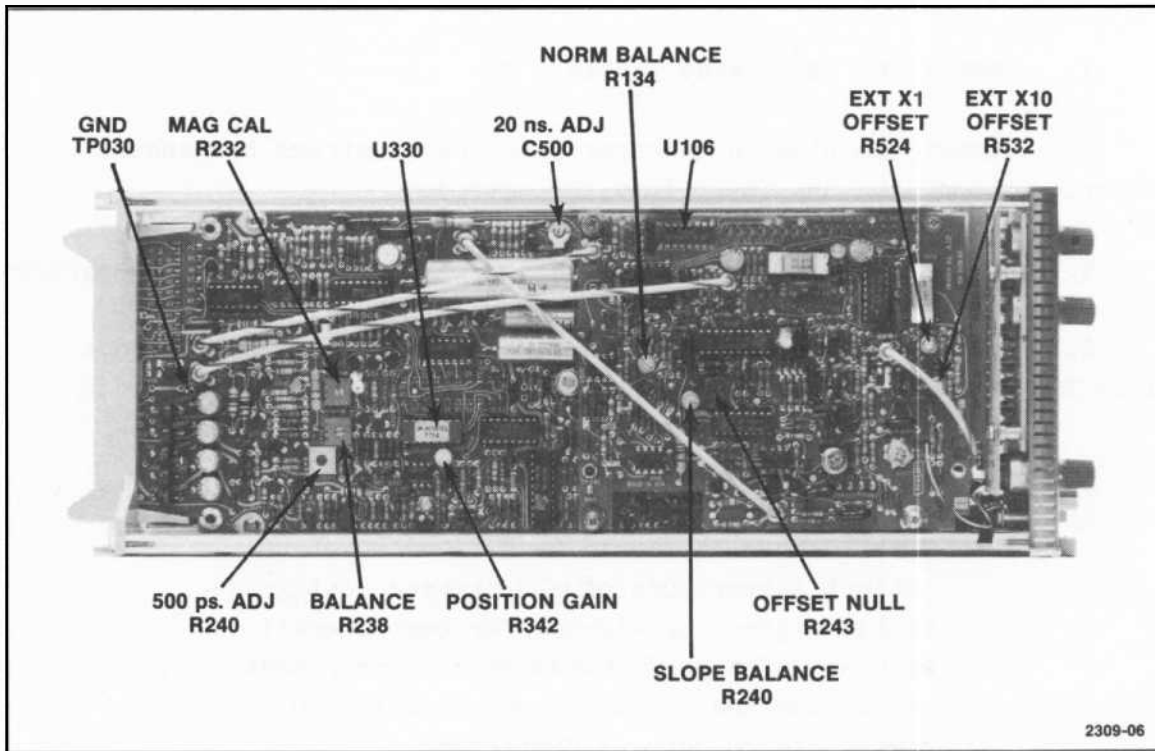

Fig. 6-1b. Test point and adjustment locations sweep and trigger boards.
8. Connect the negative lead of the Digital Voltmeter to the ground testpoint, TP030 on the sweep board (see Fig. 6-1b).